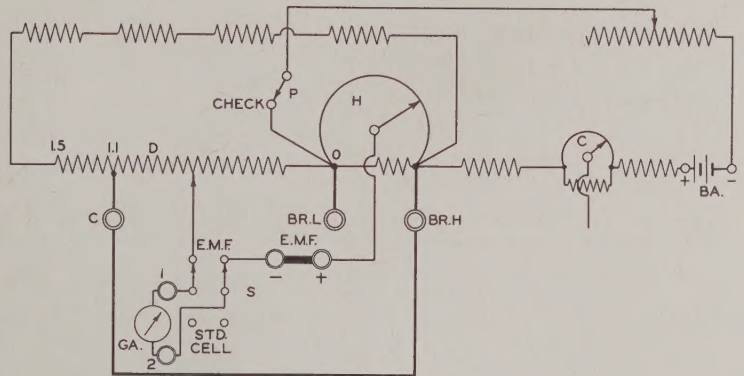

Fig. 8
18. TO CHECK UNIFORMITY OF SLIDEWIRE H (Fig. 8)